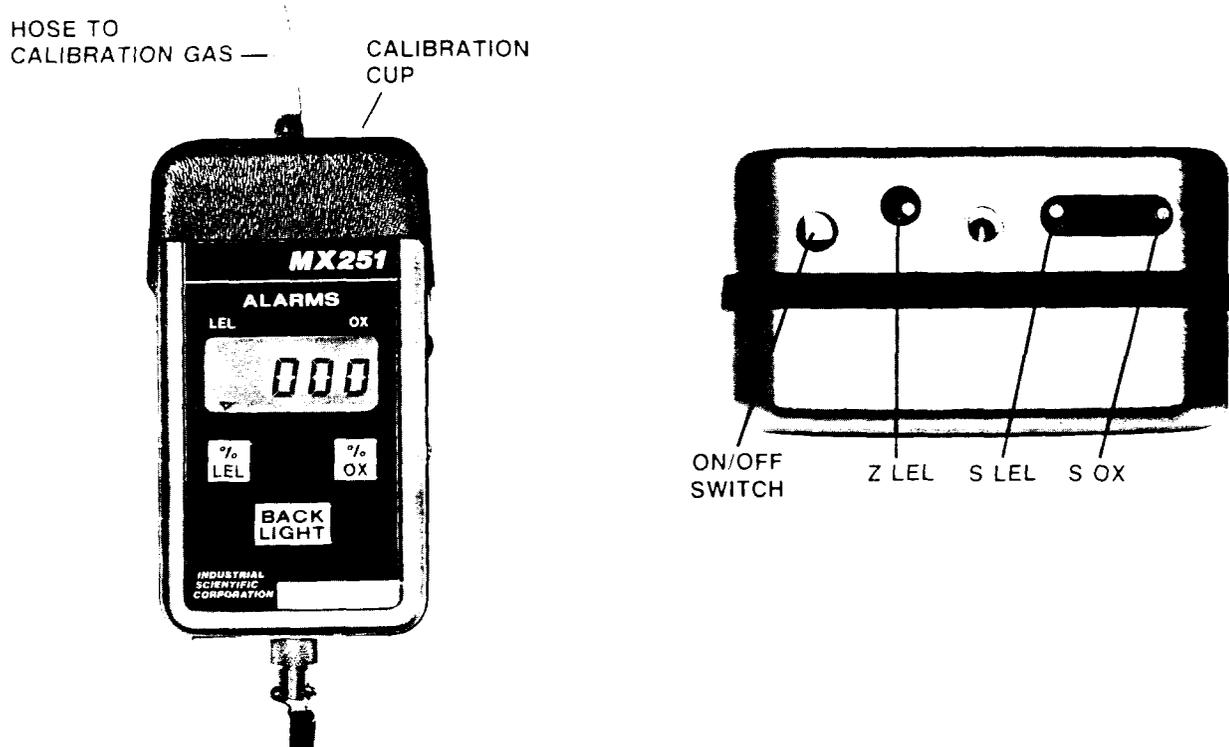

Figure 7
(1) Checking Alarm Settings
Before calibrating the instrument, it is good practice to check all of the alarm settings to verify that they are set correctly. The calibration cover must first be released and turned ninety degrees to expose the three calibration adjustments along the bottom end of the instrument. The function of the three control adjustments are: (1) LEL zero offset **Z LEL**, (2) LEL span sensitivity **S LEL**, (3) OX calibration **S OX**. (See figure 7)